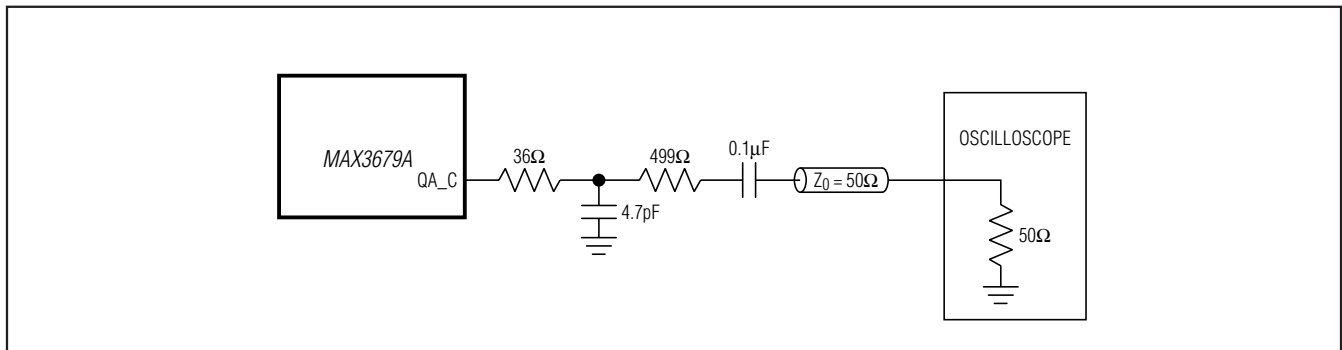

Figure 1. LVC MOS Output Measurement Setup
- Note 6:** Measured using setup shown in Figure 1 with  $V_{CC} = 3.3V \pm 5\%$ .